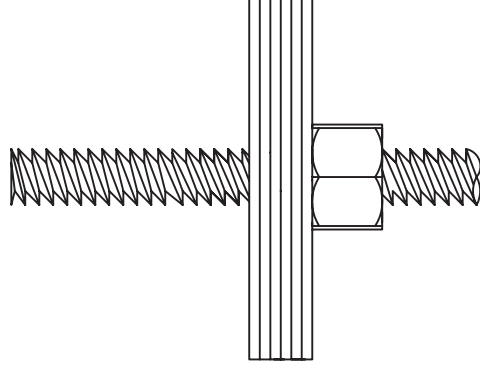

FIGURE 3
STEP 5: WHEN THE CONCRETE HAS SET, REMOVE THE TOP NUT AND ADD FIVE (5) ADDITIONAL FENDER WASHERS, AS DEPICTED IN FIGURE 3.